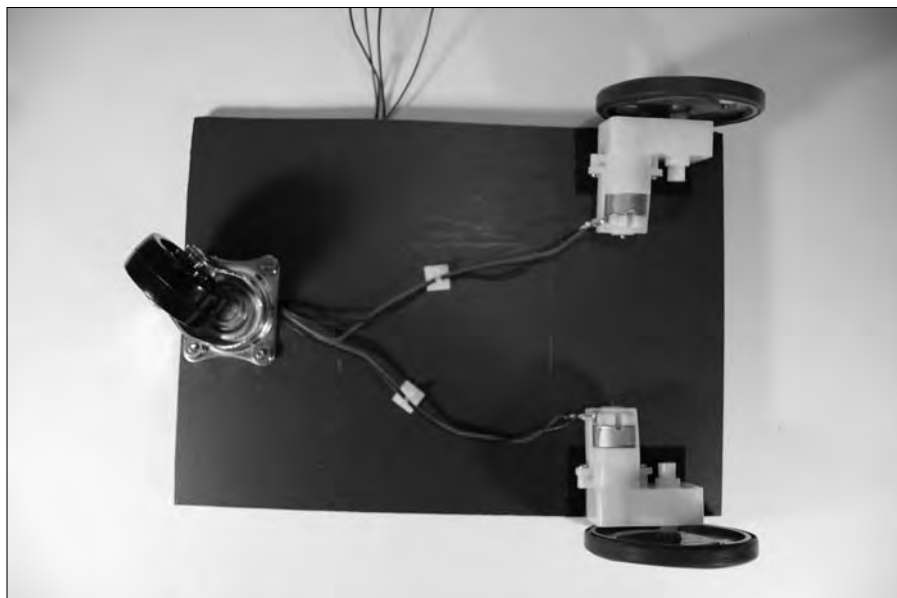

Figure 11-38:
8. Stick some Velcro to the base of the kart where the motors will be attached and then attach the motors; see Figure 11-38.
9. Attach the castor, using $\frac{5}{8}$ " 6-32 screws and nuts, also shown in Figure 11-38.
10. Feed the wires through the $\frac{1}{4}$ " hole and secure the wires with the wire clips (as shown in Figure 11-38); then slip the wheels on the motor shafts and secure the wheels with the screw provided.